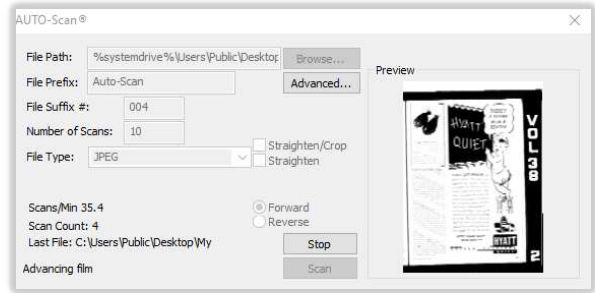

Figure 69
- AUTO-Scan* (Figure 69) runs at up to 20 IPM for both film and fiche (requires an AUTO-Carrier).